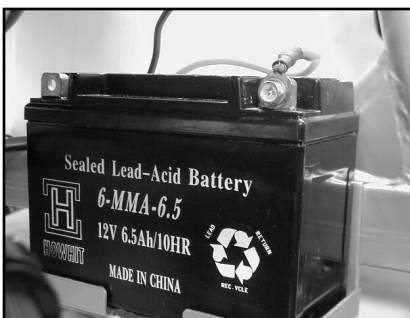

FIGURE 29
- Once battery is firmly seated in gray tray with rubber mat under it, attach the red positive wire to the red positive terminal on the battery. **(see figure 29)**